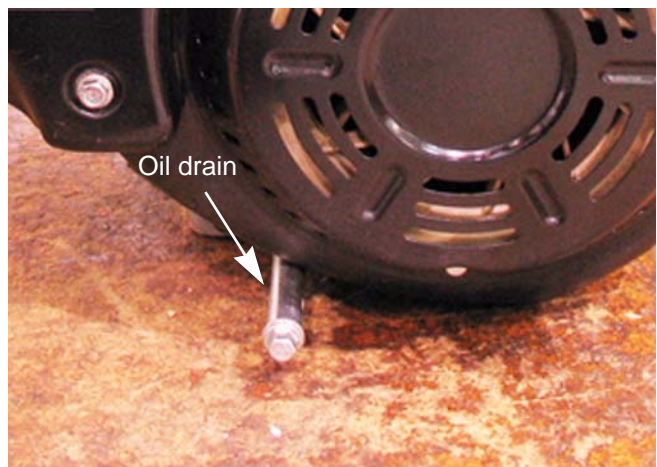

Figure 1.7
2. Drain the oil by removing the drain plug located at the end of the extension pipe threaded into the base of the engine, using a 10mm wrench. See Figure 1.7.